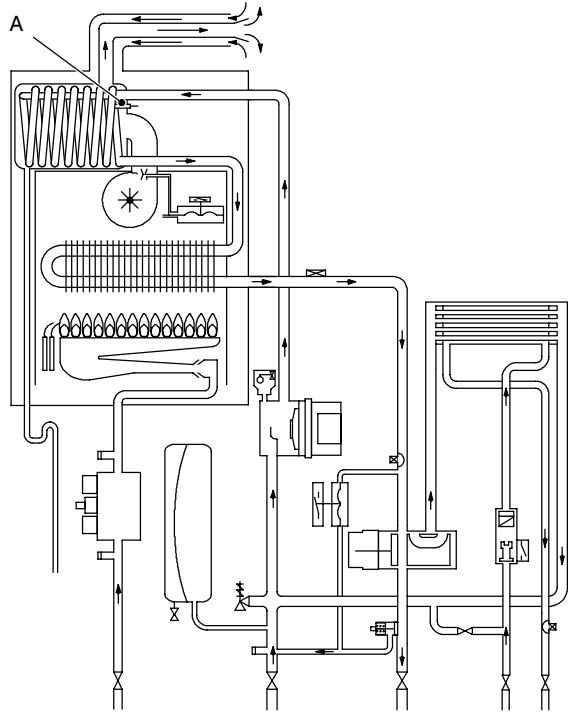
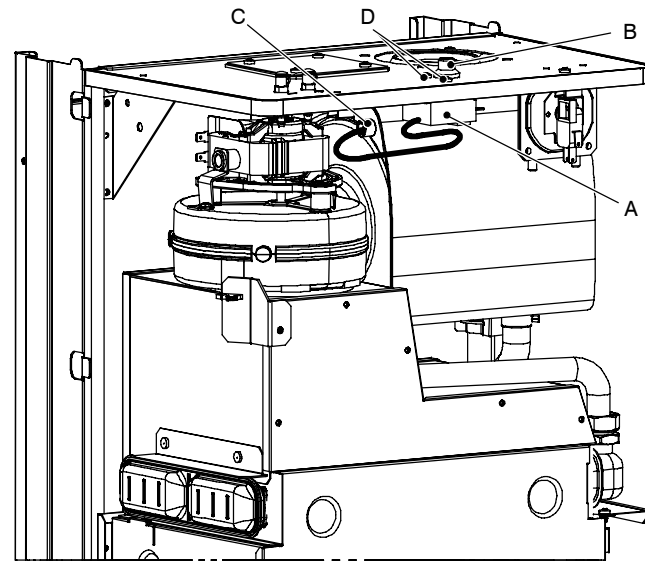

Fig. 81
Fig. 82
The Flue thermostat A in Fig. 81 and Fig. 82 senses the temperature of the combustion products that flow through the condensing heat exchanger.
The reset push-button is located on the top of the boiler under a protective cap B in Fig. 82 and can be reached by unscrewing the cap.
- 3 Unscrew and remove the thermostat probe C (Fig. 82) from the condensing heat exchanger.